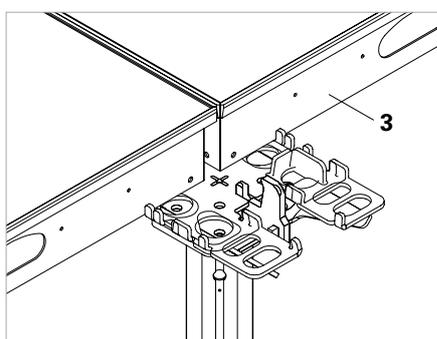

Fig. A5.12
- Pannel SDP (3). (Fig. A5.12)